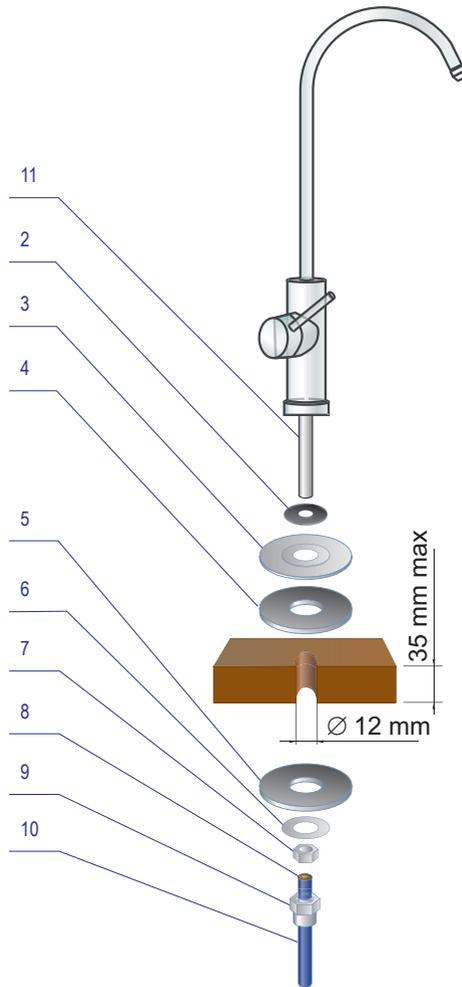

Figure 8. Tube connecting to the clean water faucet procedure
- ❑ Put on the thread tail of the faucet (11) rubber gasket (2), decorative stand (3), rubber gasket (4) and insert the faucet into the hole in the sink;
- ❑ Underneath the sink, put plastic (5) and metal (6) lock washers on the thread bushing and screw on the fastening nut (7);
- ❑ Put on the captive-nut (9) on the plastic pipe (10) with pressed metal bushing (8) (fig. 8) and screw on the nut onto the tail end of the faucet.